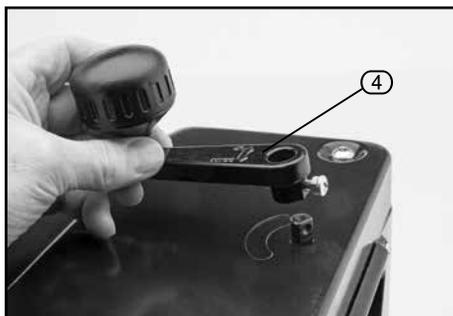

FIG. 1
8.1 INSTALLING THE DEPTH ADJUSTMENT HANDLE – FIGS. 1 – 2